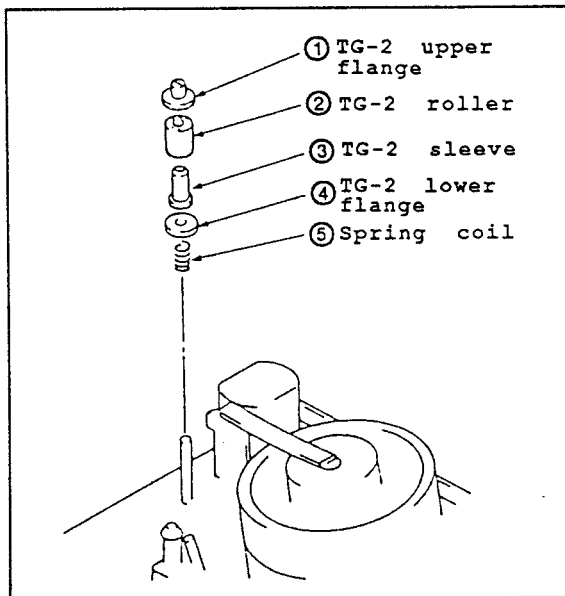
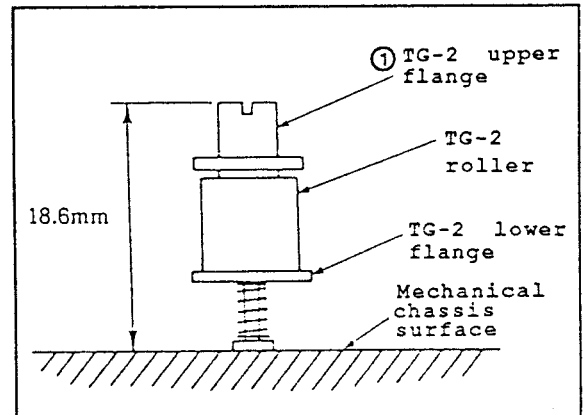

Fig.II-15
Fig.II-16
• Disassembling (Fig.II-15)
- (1) Take out the TG-2 upper flange ①.
- (2) Take out the TG-2 roller ②, TG-2 sleeve ③, TG-2 lower flange ④ and the coil spring ⑤.
• Reassembling (Fig.II-15)
- (1) Install the coil spring ⑤, TG-2 lower flange ④, TG-2 sleeve ③ and TG-2 roller ② to the shaft.
- (2) Secure the TG-2 upper flange ① to the shaft by turning it four to 6 times.
• Presetting (Fig.II-16)
- (1) Turn the TG-2 upper flange ① to adjust the height between the mechanical chassis surface and the TG-2 upper flange to 18.6mm.